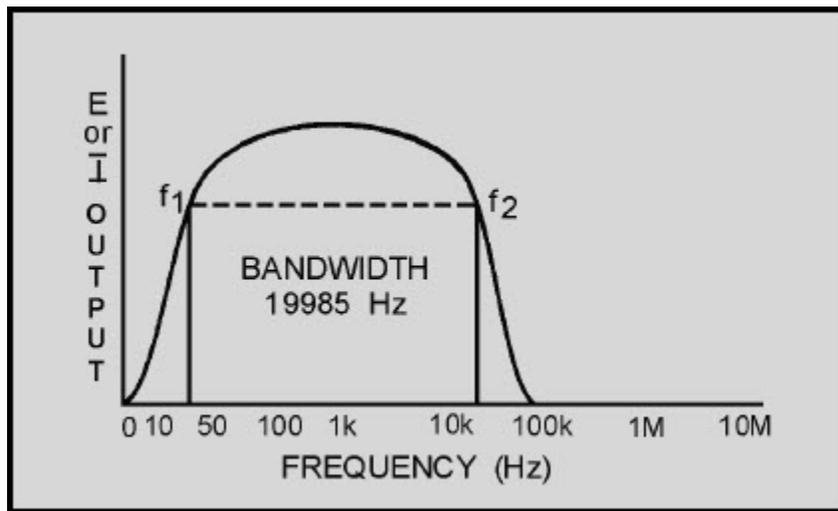
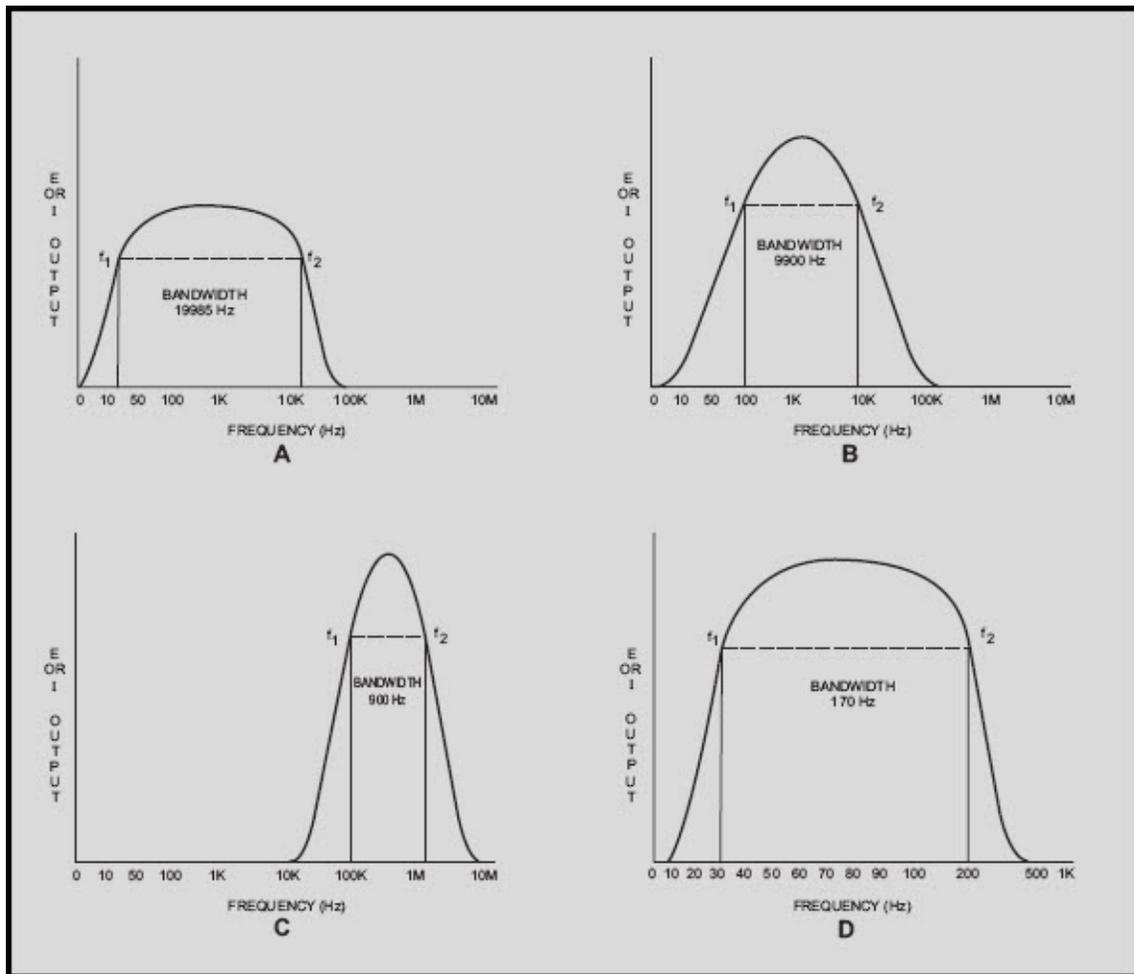

Figure 2-1 Frequency response curve of audio amplifier
Figure 2-2 Frequency response curves, A THROUGH D
Note the frequency-response curve shown in figure 2-1. This is the frequency-response curve for an audio amplifier as described in chapter 1. It is "flat" from 15 hertz (15 Hz) to 20 kilohertz (20 kHz).
The bandwidth represents the amount or "width" of frequencies, or the "band of frequencies," that the amplifier is MOST effective in amplifying. However, the bandwidth is NOT the same as the band of frequencies that is amplified. The bandwidth (BW) of an amplifier is the difference between the frequency limits of the amplifier. For example, the band of frequencies for an amplifier may be from 10 kilohertz (10 kHz) to 30 kilohertz (30 kHz). In this case, the bandwidth would be 20 kilohertz (20 kHz). As another example, if an amplifier is designed to amplify frequencies between 15 hertz (15 Hz) and 20 kilohertz (20 kHz), the bandwidth will be equal to 20 kilohertz minus 15 hertz or 19,985 hertz (19,985 Hz). This is shown in figure 2-1.
On figure 2-1, the two points marked  $f_1$  and  $f_2$  will enable you to determine the frequency-response limits of the amplifier. In this case, the limits are 15 hertz (15 Hz) and 20 kilohertz (20 kHz). You should now see how a frequency-response curve can enable you to determine the frequency limits and the bandwidth of an amplifier.
Figure 2-2 shows the frequency-response curves for four different amplifiers. View (A) is the same frequency-response curve as shown on page 5-6, figure 2-1. View (B) is the frequency-response curve of an amplifier that would also be classified as an audio amplifier, even though the curve is not "flat" from 15 hertz to 20 kilohertz and does not drop off sharply at the frequency limits. From the curve, you can see that the lower frequency limit of this amplifier ( $f_1$ ) is 100 hertz. The upper frequency limit ( $f_2$ ) is 10 kilohertz. Therefore, the bandwidth of this amplifier must be 10 kilohertz minus 100 hertz or 9900 hertz. Most amplifiers will have a frequency-response curve shaped like view (B) if nothing is done to modify the frequency-response characteristics of the circuit. (The factors that affect frequency response and the methods to modify the frequency response of an amplifier are covered a little later in this chapter.)